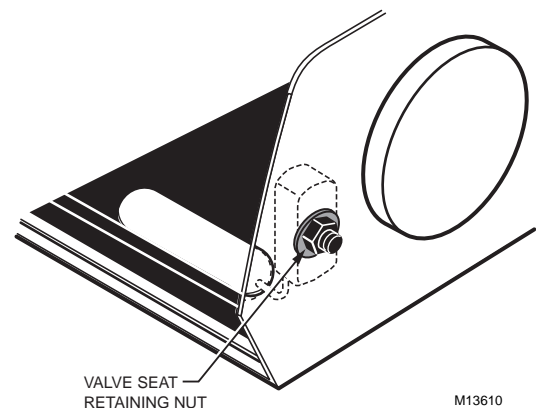

**Fig. 22. Installing Motor Cover.**
5. Place motor lead wires through bottom hole of Motor Cover and snap into place on outside of Humidifier. See Fig. 22.